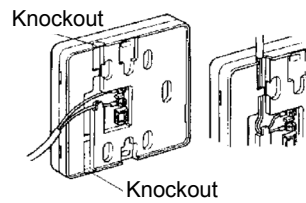

Fig. 3
2. Connect the cable to the kitchen remote control as shown in Fig 3. At this point cables from other controllers (if fitted) may also be connected to the kitchen remote terminals eliminating the need to have multiple cable runs directly to the hot water heater, controllers are not polarity sensitive.
**If the cable cannot be run in the wall cavity, remove the plastic 'knockout' lugs as shown in Fig. 3.**